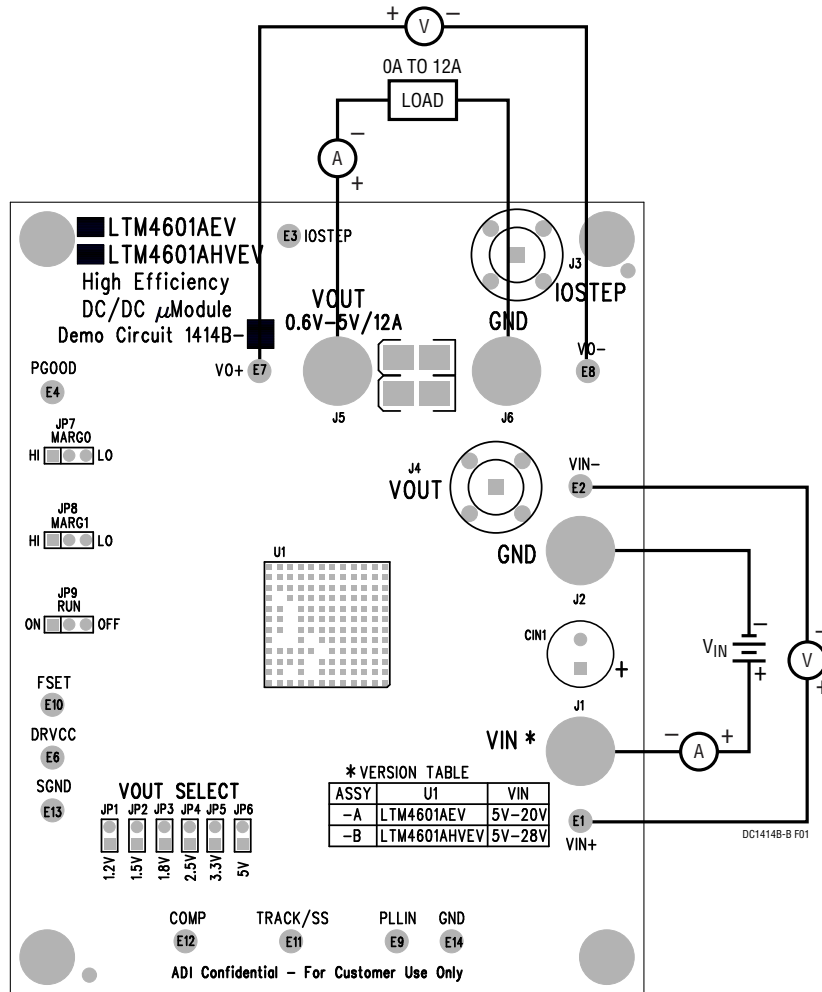

Figure 1. Test Setup of DC1414B-A
Demonstration circuit 1414B-A is easy to set up to evaluate the performance of the LTM4601A. Please refer to Figure 1 for proper measurement equipment setup and follow the procedure below:
2. With power off, connect the input power supply, load and meters as shown in Figure 1. Preset the load to 0A and VIN supply to be less than 20V.